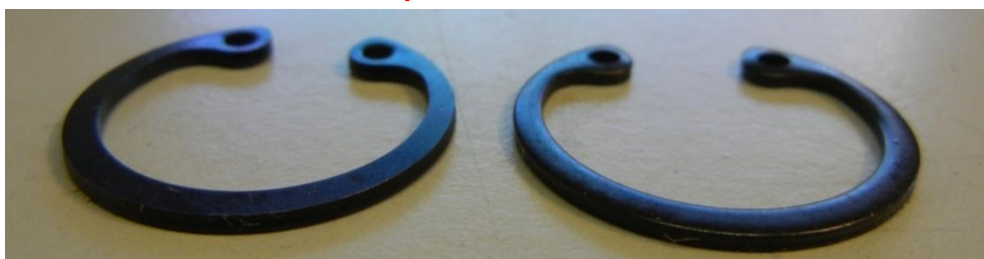

Figure 131 – The Two Sides of Circlips
- Visually inspect the clips supplied and identify the “flat” and “round” sides. Figure 131 shows the two different sides of a typical clip – note the sharp corners on the top of the left clip while the clip on the right has a rounded top face and rounded corners. This comes from the clip manufacturing process and will be apparent in all clips of this type – one side will be “sharp” and the other “round”.